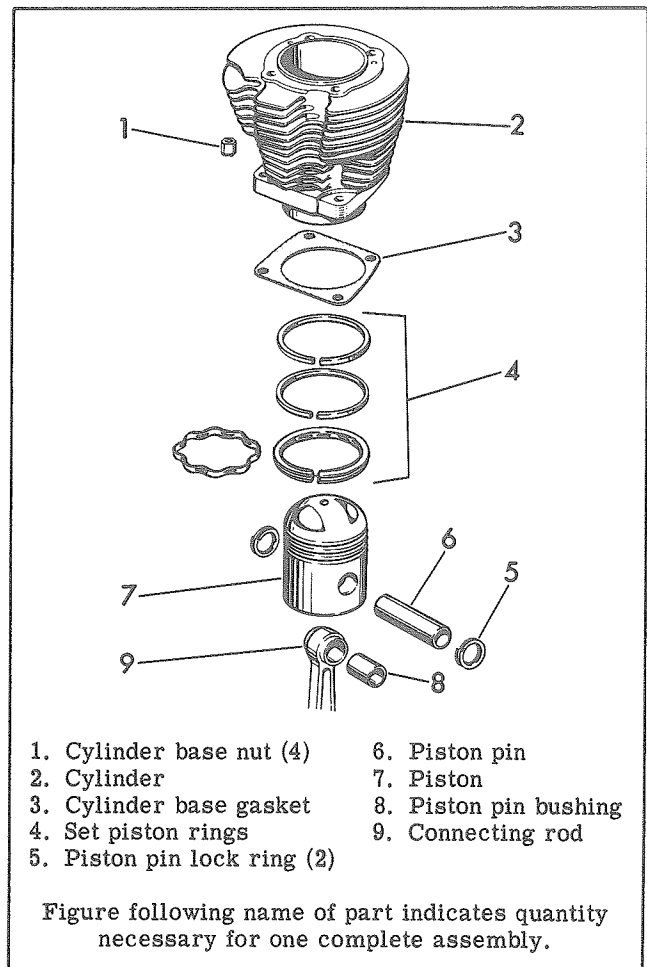

Figure 3C-16. Cylinder and Piston - Exploded View
REMOVING CYLINDER AND PISTON (Fig. 3C-16)
See Fig. 3C-16, and proceed as follows: Clean crankcase around cylinder base to prevent dirt from falling into crankcase when lifting cylinders. Remove cylinder base stud nuts (1). Raise cylinder and piston just high enough to permit placing a rag over crankcase opening; this will prevent dirt and possibly pieces of broken ring from falling into crankcase. With piston at bottom of stroke, remove cylinder (2), discard cylinder base gasket (3). Spring piston rings (4) outward until they clear grooves in piston (7) and lift off. Pry piston pin lock rings (5) from piston (7) groove using two sharp pointed instruments such as awls. Support piston and tap out piston pin (6) with a suitable drift.
Check rods for up-and-down play and upper end side shake (see Fig. 3C-17). To make this check with accuracy, pistons should first be removed. When appreciable up-and-down play is found and side shake (rod tip) at extreme upper end is 11/64 in. or more for front rod or 3/64 in. or more for rear rod, lower bearing should be refitted. This requires removing and disassembling engine crankcase. See "Crankcase," Section 3E.